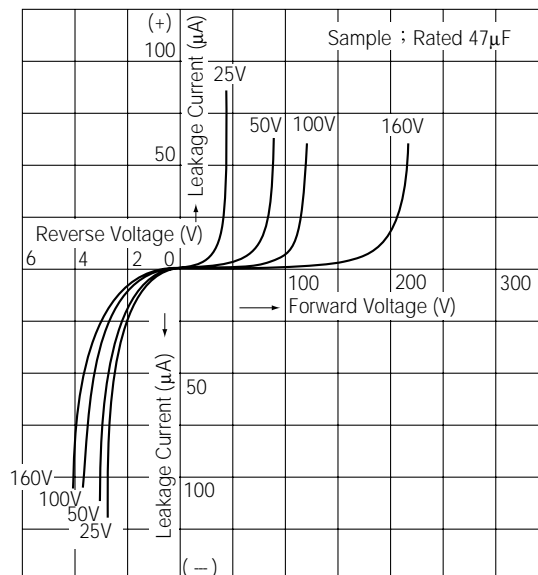

Fig. 2-2 V - I Characteristics (Voltage - Current Characteristics)
The relationship between the voltage and leakage current when voltage is applied to the aluminum electrolytic capacitor is shown in Fig. 2-2. From Fig. 2-2, the followings can be said;
As Fig. 2-2 shows, the leakage current rises sharply when voltage above the rated voltage is applied. When the withstand voltage of the anode foil decreases due to the generation of heat and the anode foil undergoes insulation breakdown, a large amount of current will flow through and cause the internal pressure to rise within a short period of time. If the pressure relief vent is activated, the electrolyte that has changed to gas is vigorously released from the opened vent. The energy of the capacitor is proportional to the second power of the voltage ($J = \frac{1}{2} CV^2$). Therefore, the higher the applied voltage, the more severe the condition of the activated vent, and the more likely that a short between the foils will occur. Please use capacitors within their rated voltage.
As (Fig. 2-2 V-I Characteristics) shows, the aluminum electrolytic capacitor does not have withstand voltage in the reverse direction. Therefore if the capacitor is used in an AC circuit, an electric current flow which is larger than that calculated from $I = \omega CE$. If the internal resistance of the aluminum electrolytic capacitor is labeled R (Ω), heat will generate due to the wattage loss $W = I^2 R$ (W) according to the current. The degree of heat is large because the internal resistance of a capacitor is large; thus the pressure relief vent is activated when heat generates and causes the electrolyte to evaporate, causing the internal pressure to rise. Even bipolar capacitors (non-polar), cannot use it for continuous AC application in addition to above.